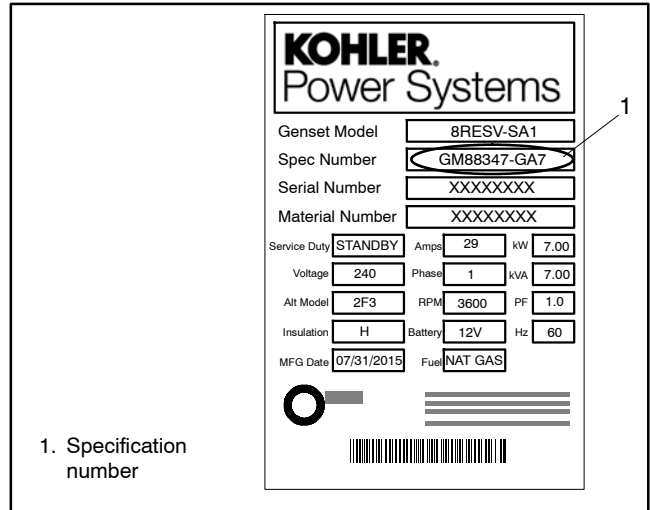

Figure 7-1 Name Plate
Note: The reduced minimum clearance from a structure contained in ADV-8774 (Figure 7-8) only applies to generators that are compliant with clause (2) of section 4.1.4 of NFPA 37. To verify that the generator is compliant, check the **Specification Number** located on the generator name plate. See Figure 7-1. If the name plate displays one of the following specification numbers, then the generator is compliant with clause (2) of section 4.1.4 of NFPA 37 and the reduced clearance in ADV-8774 (Figure 7-8) will apply.